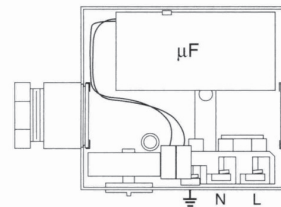

Fig. 4
- Effect all wiring according to Wiring diagram (Fig. 4).